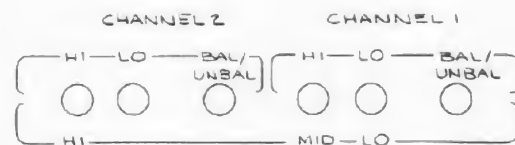

FIG. 2
1. Refer to figures 2, 3 and 4 for wiring connections.